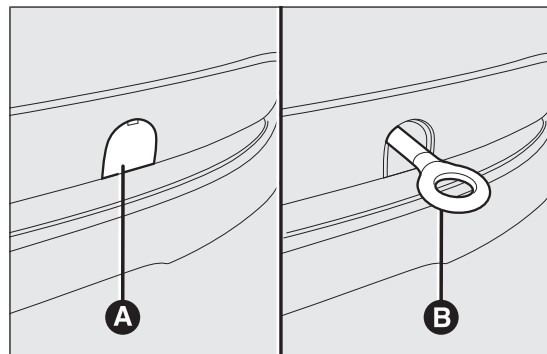

fig. 134
- ☐ take the tow ring B fig. 134 from its housing in the tool support;